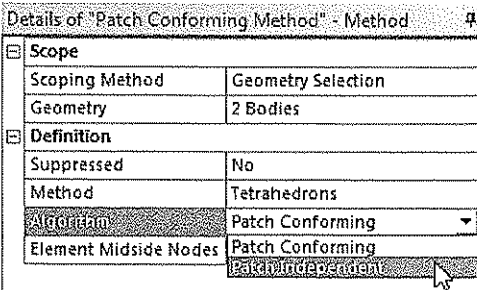

Figure 8-27 Selecting the **Patch Independent** option from the **Algorithm** drop-down list
23. Select the **Patch Independent** option from the **Algorithm** drop-down list, as shown in Figure 8-27; **Automatic Method** is replaced by **Patch Independent** in the Tree Outline. Also, the **Details of “Patch Independence”** window is displayed.